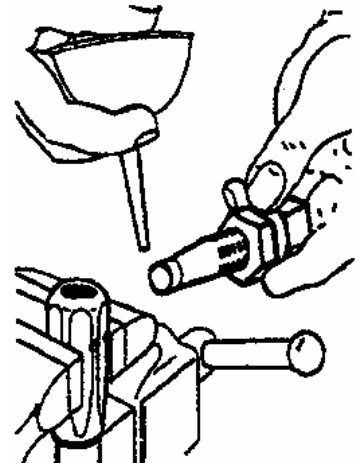

Figure 6. High-Pressure Hose Assembly Lubrication
l. Lubricate inside bore of hose and outer surface of nipple assembly with hydraulic fluid MIL-PRF-83282 (Figure 6).
- i. Lubricate inside bore of hose and outer surface of nipple assembly with hydraulic fluid MIL-PRF-83282 (Figure 6).